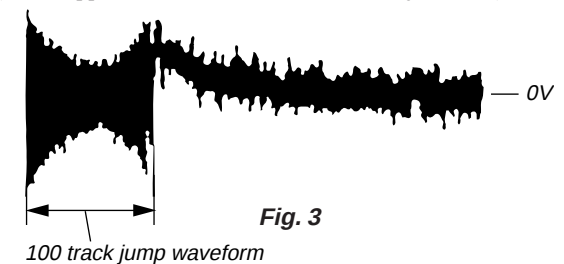

Fig. 3
7. Press ►|| (►►) or ◀◀ keys and observe the 100 track jump waveform. Check that no traverse waveform appears for both ►|| (►►) or ◀◀ directions. (See Figures 3 and 4.) It is acceptable if the traverse waveform appears only now and then, but if it appears constantly raise tracking gain slightly and check step 7 again.